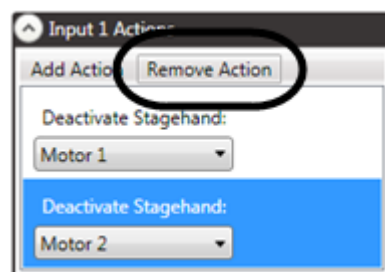

Figure 106
2. In the **Input (1, 2, 3 or 4) Action** section of the **FX Editing Pane**, highlight the desired action and press **Remove Action** (Figure 106).